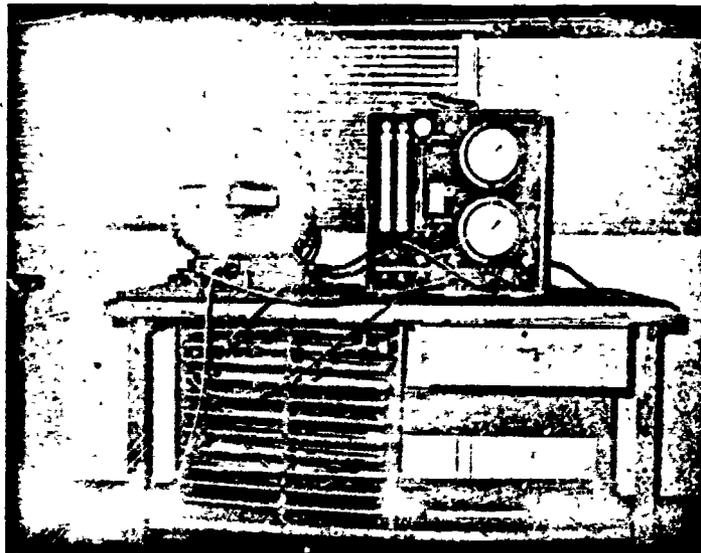

Figure 7. Converter and Test Equipment Hookup.
Note: This project is to familiarize you with the operation of a liquid oxygen servicing trailer. In the field you will service converters with oxygen. You can then use the TTU-162/E converter tester (figure 7) to bench check a converter in the shop.
1. The converter (figure 7) you will be servicing is connected to a piece of test equipment and a coil of tubing. This is the TTU-162/E converter tester you will use in the next project.